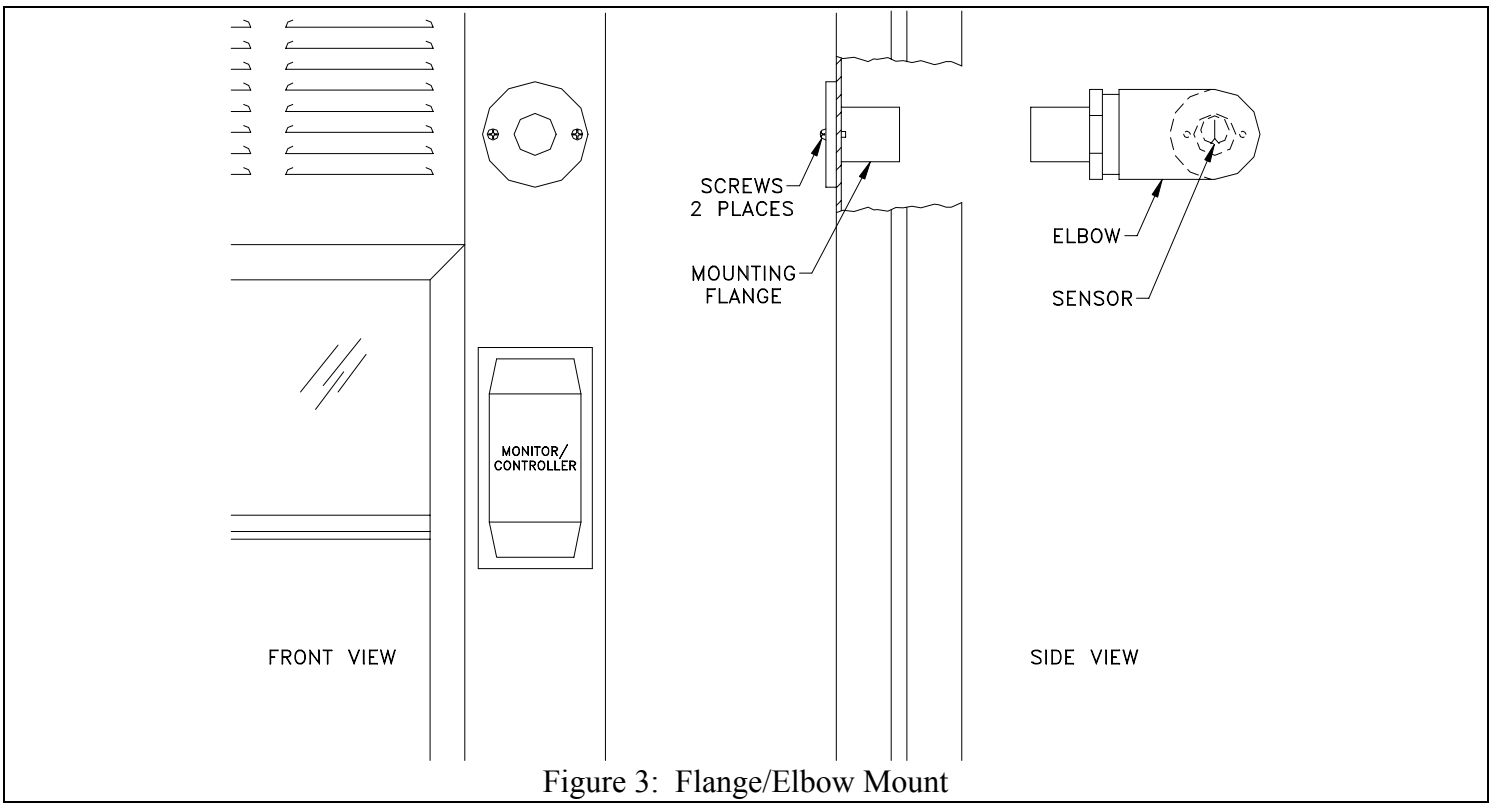

Figure 3: Flange/Elbow Mount
- Step 2: Insert mounting flange into the hole and secure screws which are not included (Figure 3).
- Step 3: Loosely push elbow onto the sensor (Figure 3).